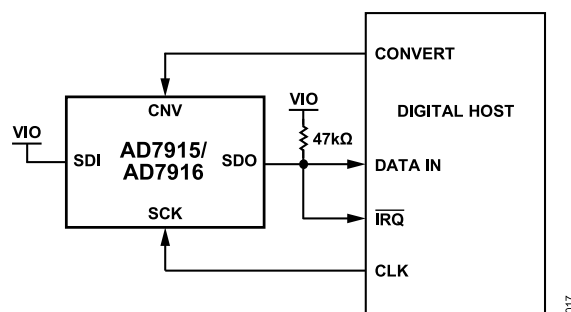
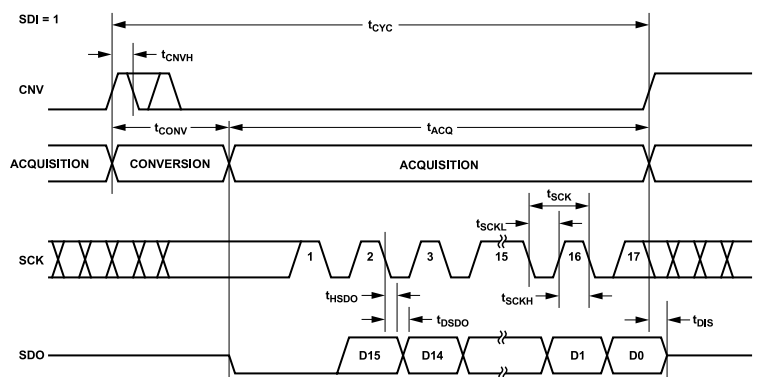
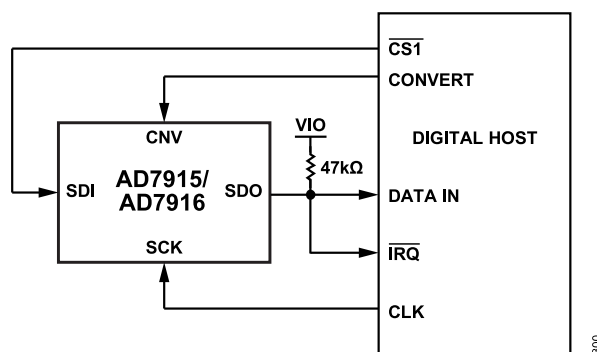
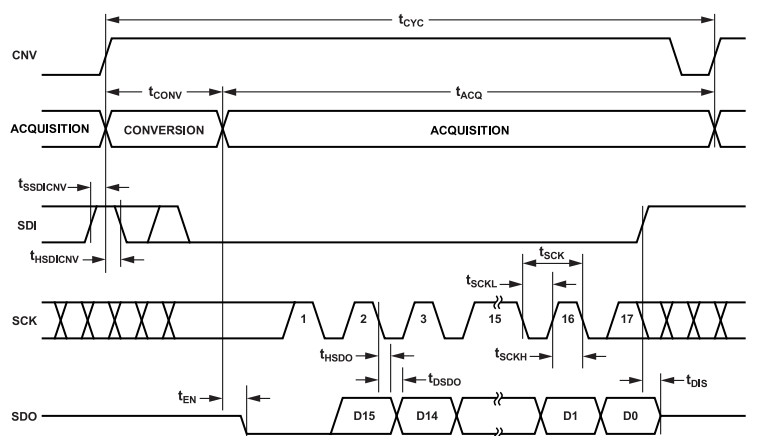

Figure 36. 3-Wire, $\overline{\text{CS}}$ Mode with Busy Indicator Connection Diagram (SDI High)
Figure 37. 3-Wire, $\overline{\text{CS}}$ Mode with Busy Indicator Serial Interface Timing (SDI High)
Figure 40. 4-Wire, $\overline{\text{CS}}$ Mode with Busy Indicator Connection Diagram
Figure 41. 4-Wire, $\overline{\text{CS}}$ Mode with Busy Indicator Serial Interface Timing
- ▶ in $\overline{\text{CS}}$ mode if CNV or SDI is low when the ADC conversion ends (see Figure 37 and Figure 41).
The connection diagram is shown in Figure 36, and the corresponding timing is given in Figure 37.
The connection diagram is shown in Figure 40, and the corresponding timing is given in Figure 41.